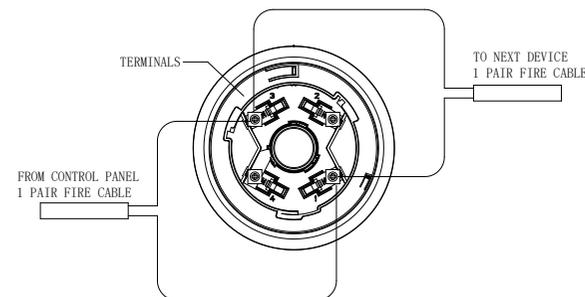

Fig.2
1. Wiring: See Fig.2. The Sounder Beacon Base is subject to a two-wire non-polarity connection: Terminals 1 and 3 are respectively connected with the terminals L1 and L2 of the loop bus of a compatible fire alarm control panel. Terminals 2 and 4 are respectively connected with the terminals 2 and 4 of A9020T(Heat Detector) or A9030T(Smoke Detector).